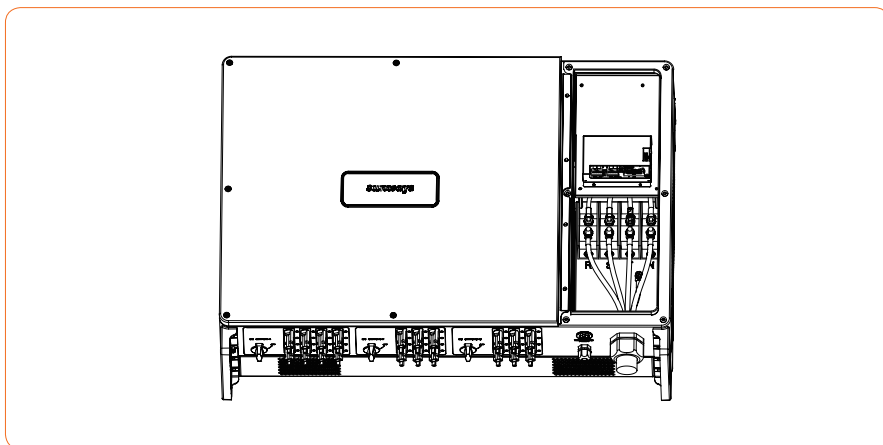

Figure 4-19
③ Put the AC cable through the cable gland and use a socket spanner to lock all cables to the correspondingly AC connector and pull back them with some power to make sure they're well connected. As shown in Figure 4-19: